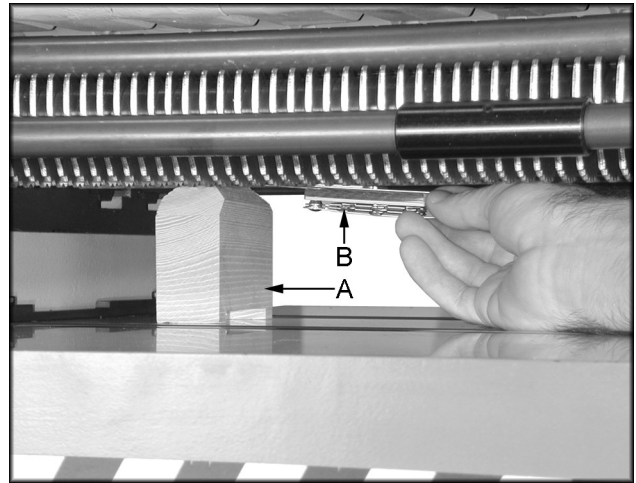

Figure 14
2. Place a hard wood gauge (A, Figure 14) under a knife in cutterhead. Place a 0.02" feeler gauge (B, Figure 14) on top of wood block and raise table until feeler gauge contacts the knife in its lowest position.
2. Place a hard wood gauge (A, Figure 14) under a knife in the cutterhead. Place a 0.02" feeler gauge (B, Figure 14) on top of wood block and raise table until the gauge contacts the knife in its lowest position.
2. Place a hard wood gauge (A, Figure 14) under a knife in the cutterhead. Place a 0.02” feeler gauge (B, Figure 14) on top of wood block and raise table until the gauge contacts the knife in its lowest position.